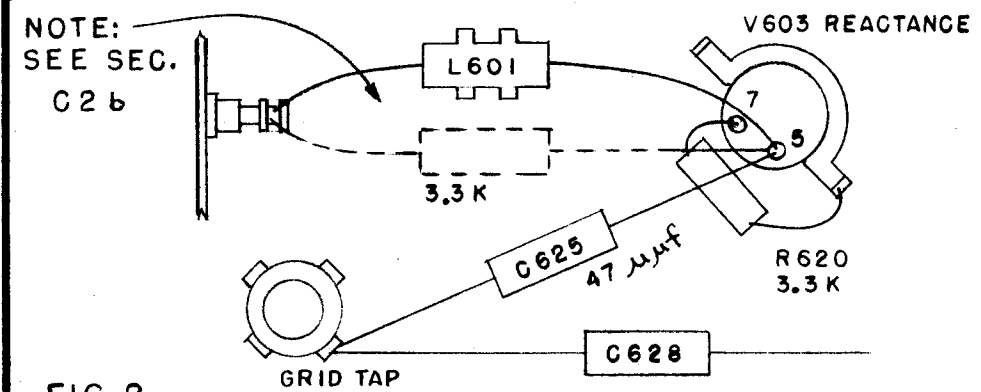

FIG. 2
2. Remove bottom cover from Model FFRD-6. Remove capacitors C605 and C637 which are connected between feedthru's and plate lugs on R.F. and Mixer coil forms. Rewire in place parts CC21SL151J. Connect part RC20GF332K in parallel with choke L601 which is connected to pin 5 of Reactance Tube V603 and a terminal post or replace choke L601 with CL-108-7. Remove capacitor C625 which is connected between pin 5 of V603 and a terminal post. Replace with part CC21SL470K from pin 5 of V603 to grid lug on oscillator coil form as shown in figure 2. Remove resistor R620 which is connected between pin 7 of V603 and ground. Replace with part RC20GF332K. Replace bottom plate.